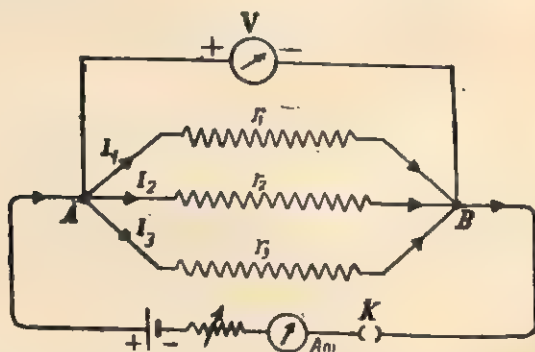

Fig. 12.20. Circuit to determine the resistance of parallel combination.
(5) Next connect  $r_1$ ,  $r_2$  and  $r_3$  in parallel and complete the circuit connections as shown in Fig. 12.20. Repeat steps (3) and (4) and take four sets of observations to get the mean value of the resultant resistance in parallel.